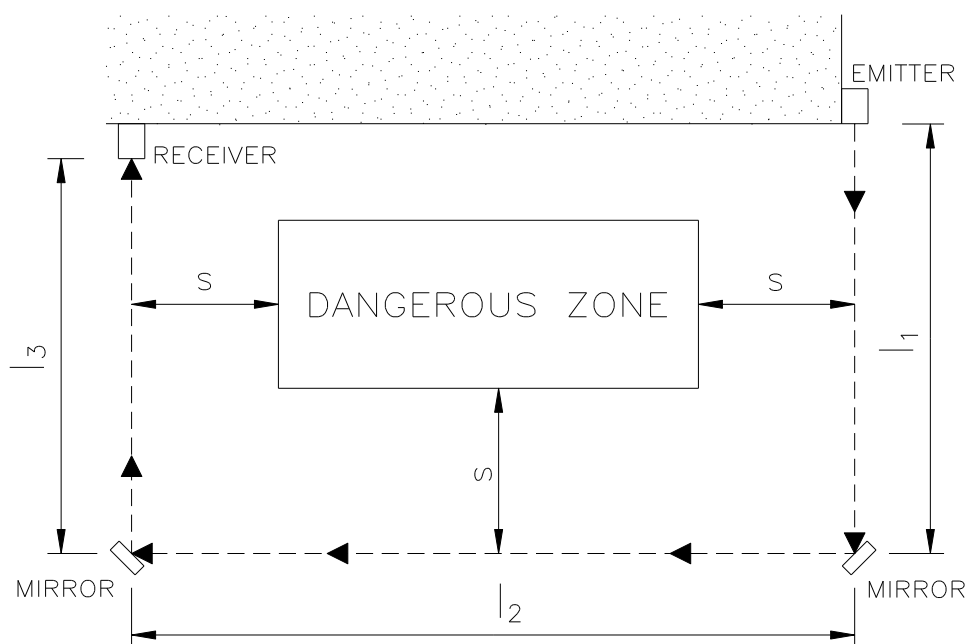

Figure 18
- Place the mirrors so as to ensure compliance with the minimum safety distance **S** (Figure 18) on each side from which the danger zone can be accessed.